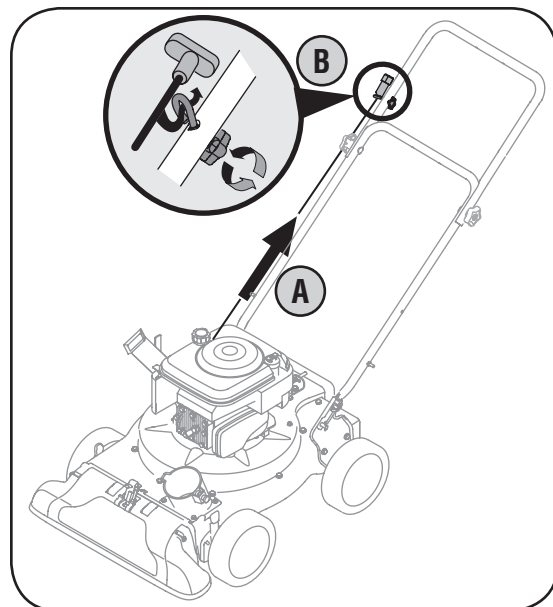

Figure 3-3
- b. Slip the starter rope into the rope guide. Tighten the wing nut. See Figure 3-3.